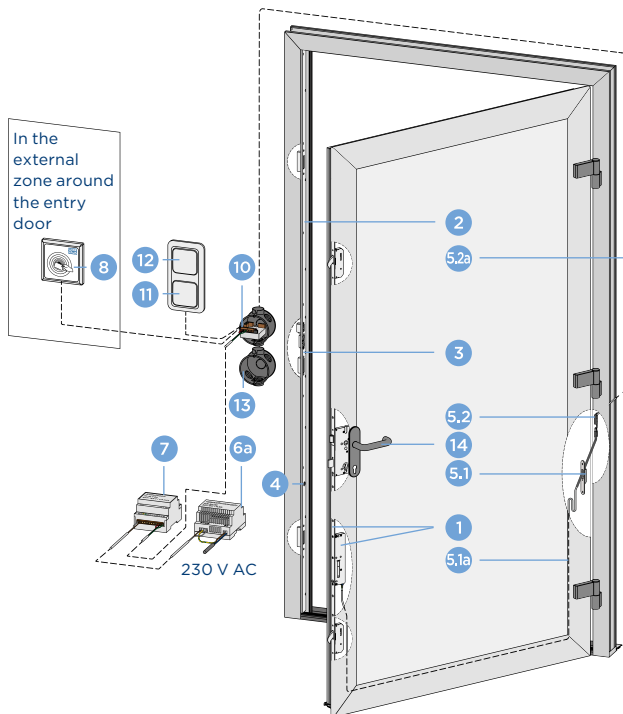

Figure 2-1: Locking system blueMotion with accessories (e.g. external control unit in switch box) and external power supply
5.1a	Figure 2-1: T-KÜ-T1 FT 2M / 3,5M Cable Cable at the sash side 2 m or 3.5 m long, plug for motor housing included
5.2a	Figure 2-1: T-KÜ-T1 RT KABEL 4M including cable 4 m for connection of external access controls, eg. intercom, potential-free contact
6a	Figure 2-1: T-HT NETZTEIL 24 V DC / 2,5 A